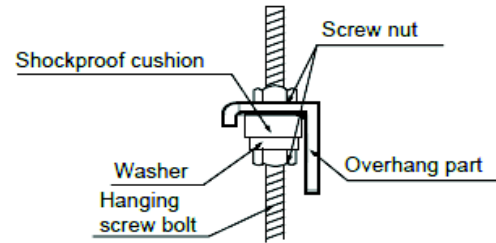

Fig. 5 – Secure the Unit
5. Secure the unit in position with lock nuts and washers on both sides of the mounting bracket. Ensure the threaded rod does not extend more than 2 in. below the mounting brackets (see Fig. 5).